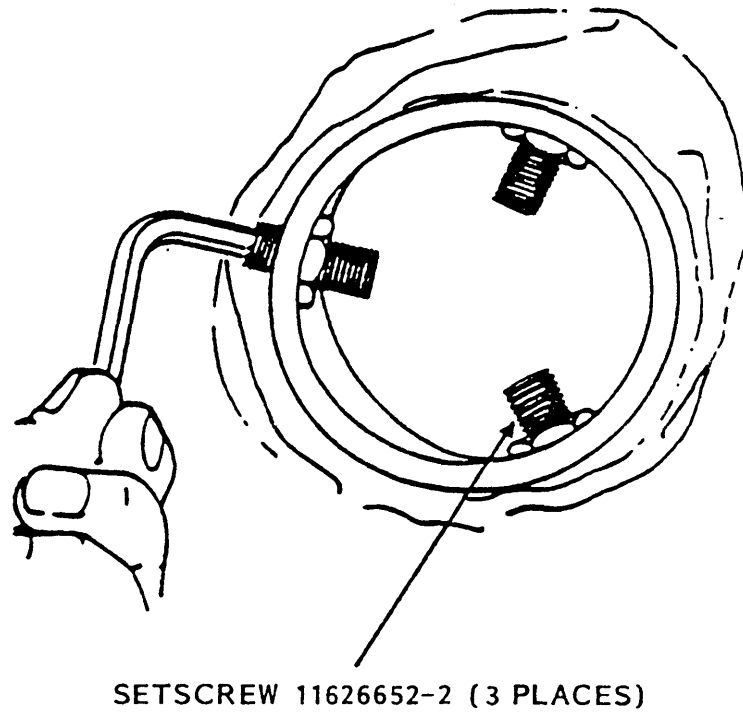

Figure 6. Removal of set screws from mantlet
- (1) Remove three set screws 11626652-2 that aline the M73/M73A1/M219 machine gun in the mantlet tube (fig. 6).
- (2) Remove empty cartridge bag in accordance with TM 9-2350-222-10.